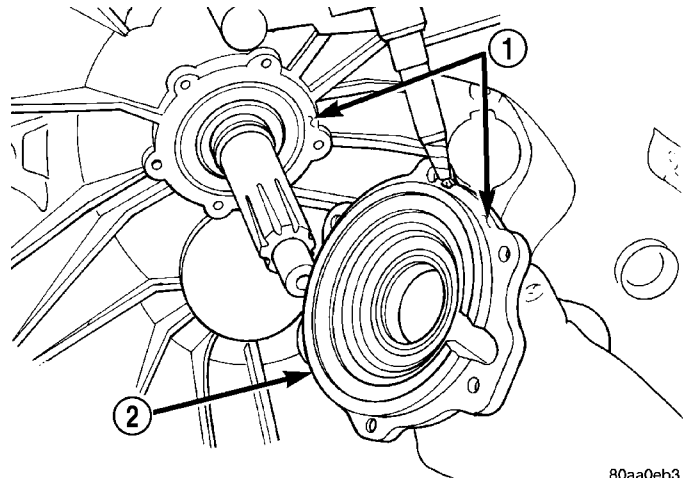

Fig. 125 SEAL BEARING RETAINER AND HOUSING
- (20) Apply bead of Mopar silicone sealer or equivalent to flange surface of front bearing retainer (Fig. 125).